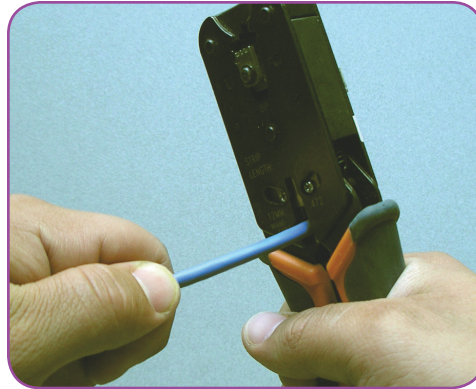

Figure D-2: Stripping the Outer Insulation
2. Using either the attachment on the RJ45 crimp tool, a knife or wire strippers, strip approximately ½-inch of outer insulation from the wire cable (see **Figure D-2**).